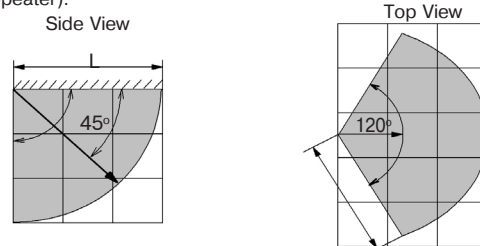

Figure 1 – Detection Pattern
- when choosing the place of installation, the Detector detection zone location must be taken into account (Figure 1);
- distance (L) between the Detector and the farthest point of the monitored glass should not exceed 6 m;